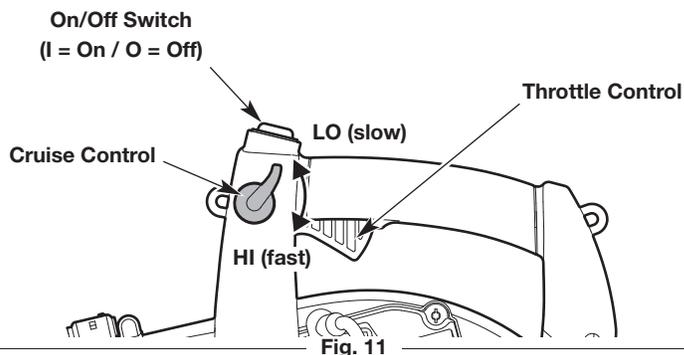

Fig. 11
NOTE: There is no need to turn the unit on. The On/Off switch is in the **On (I)** position at all times (Fig. 11).
2. Move the cruise control to the **LO (slow)** position (Fig. 11).
NOTE: Keep the cruise control in the **LO (slow)** position and **DO NOT** squeeze the throttle control (Fig. 11) until step 7.
7. Squeeze and hold the throttle control or move the cruise control to the **HI (fast)** position (Fig. 11).
2. Press and hold the On/Off switch in the **Off (O)** position until the engine comes to a complete stop (Fig. 11).
NOTE: Keep the cruise control in the LO (slow) position and DO NOT squeeze the throttle control (Fig. 11) until step 9.
9. Squeeze and hold the throttle control or move the cruise control to the **HI (fast)** position (Fig. 11).
- Use the cruise control to make continuous operation easier (Fig. 11).